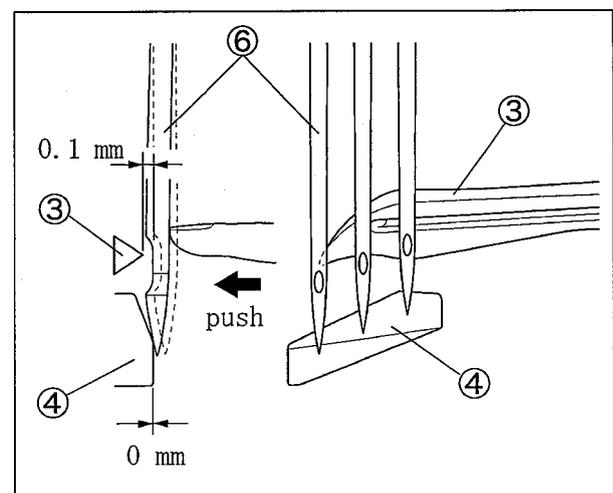

Fig. 6-22
- (3) When the looper ③ tip comes to the center of the left needle ⑥, and the left needle ⑥ is pushed onto the needle guard(rear) ④, make the clearance between the looper ③ and the left needle ⑥ to about 0.1 mm. (Fig. 6-22)